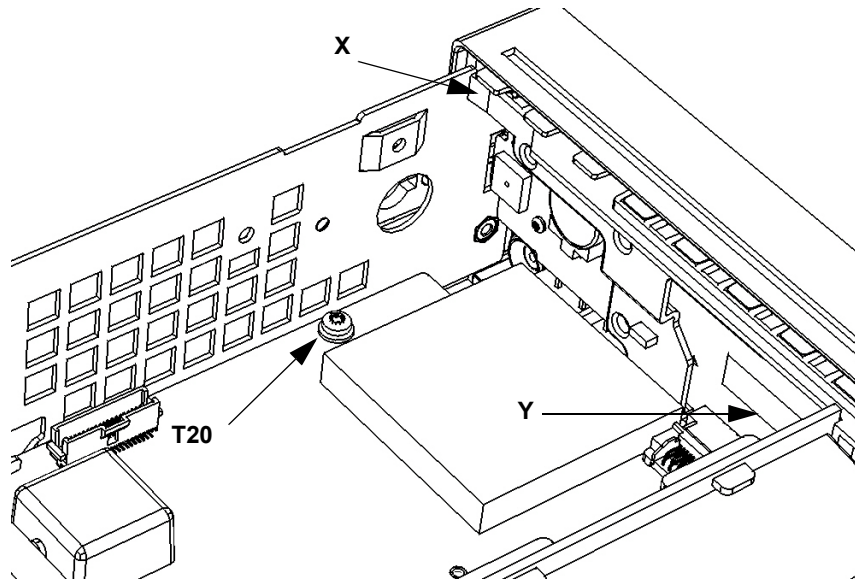

Figure 4-10. T20 TORX Screw on Motherboard
- 5 Turn the counter chassis upright and position the counter as shown in Figure 4-10.
- 6 Remove the T20 TORX screw on the front left-hand side of the motherboard as shown in Figure 4-10.
- 7 With your right hand, press in on the plastic tab (X on Figure 4-10) at the top left front of the front panel, while at the same time, use your left hand to press in on the front of the left-hand aluminum chassis side-panel, so that the front of the side-panel overlaps the
- 8 On the middle front right-hand side of the front panel, pull the plastic tab (Y on Figure 4-10) carefully toward the rear of the chassis and simultaneously press in the right side panel of the aluminum chassis until the front panel is partially released. The right front standoffs should now be free of their holes.